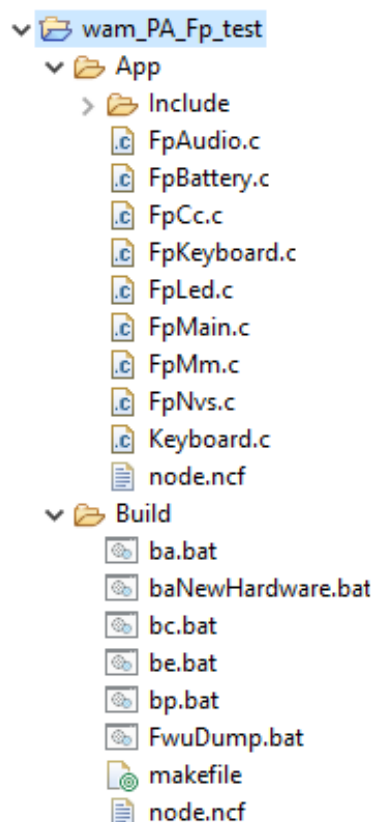

Figure 14: Project Structure (Audio Data Stack)
- The project structure should look like Figure 14. Make sure that the **Build** folder has all .bat files (bc, be, and bp).